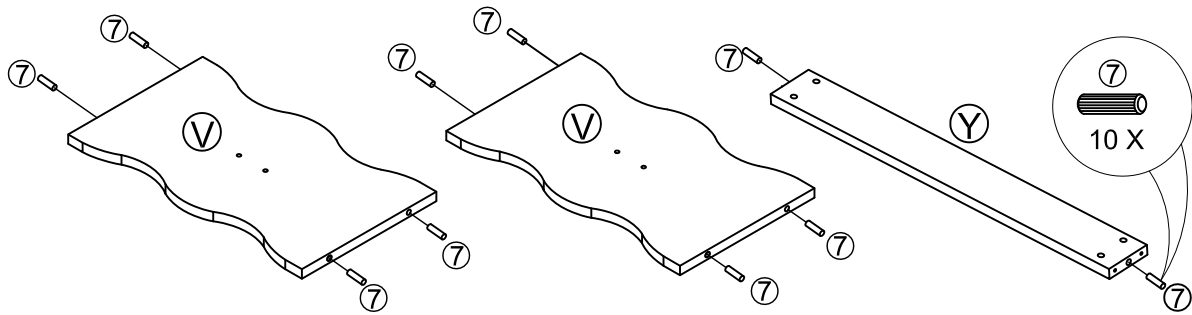

FIGURE 1
- 1.1 INSERT (10) WOOD DOWELS ⑦ INTO HOLES LOCATED AT BOTH ENDS OF LEGS #V AND CROSSBAR #Y, AS SHOWN IN FIGURE 1.